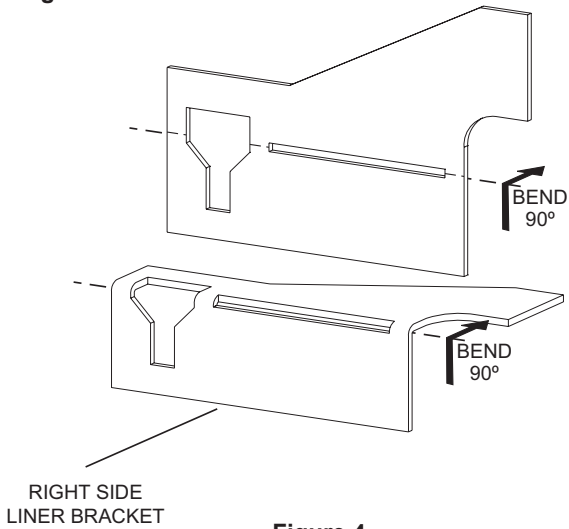

Figure 4
5. Bend one side liner bracket as shown for right side. See **Figure 4**.